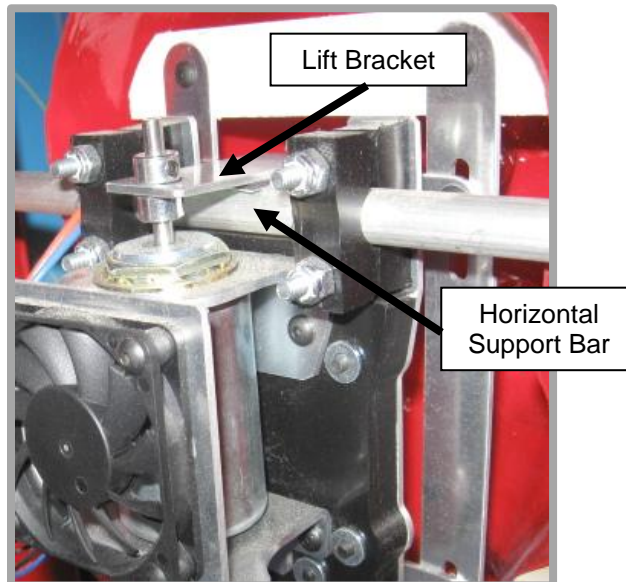

Fig. 14
3. While the Toy is resting on the Height Block, Press down the Lift Bracket until it stops and is resting on the Horizontal Support Bar as shown in Fig. 14.